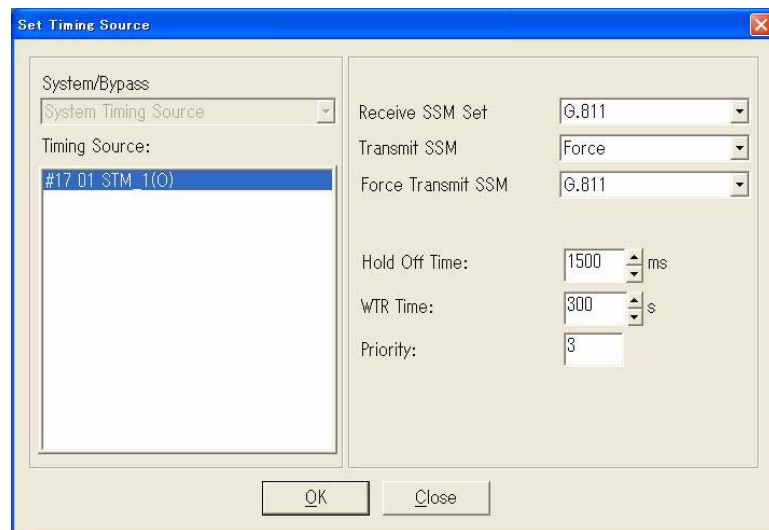

Fig. 4-4-7 Set Timing Source Dialog Box (for modification)
- 4 Click the **Modify** button on the upper left of the **Setup-Timing Source Configuration** dialog box. The **Set Timing Source** dialog box shown in *Fig. 4-4-7* appears: